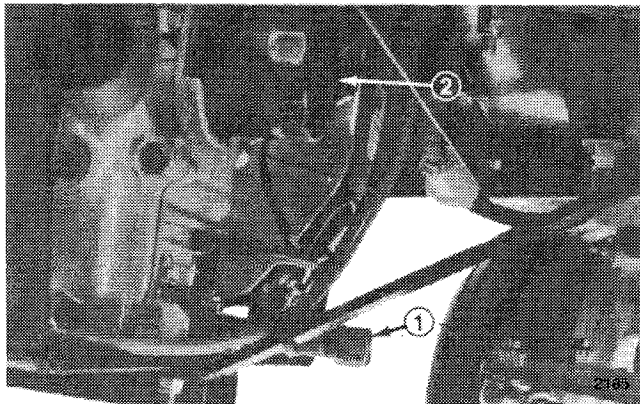

Figure 16
3. Place a pan below the oil drain. Remove the oil drain plug (Fig. 16).
2. Remove the old filter and wipe the filter adapter (Fig. 16 and 17) gasket surface.